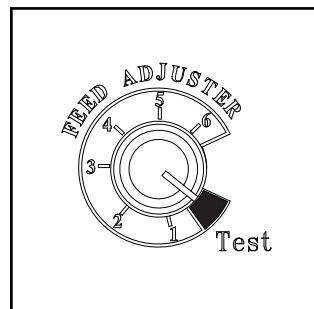

Figure 4.3
3. For your first fire it may be necessary to purge the auger system by putting the feed adjuster knob to “Test” prior to starting the unit. Figure 4.3. This insures that plenty of fuel enters the burn pot for proper ignition.